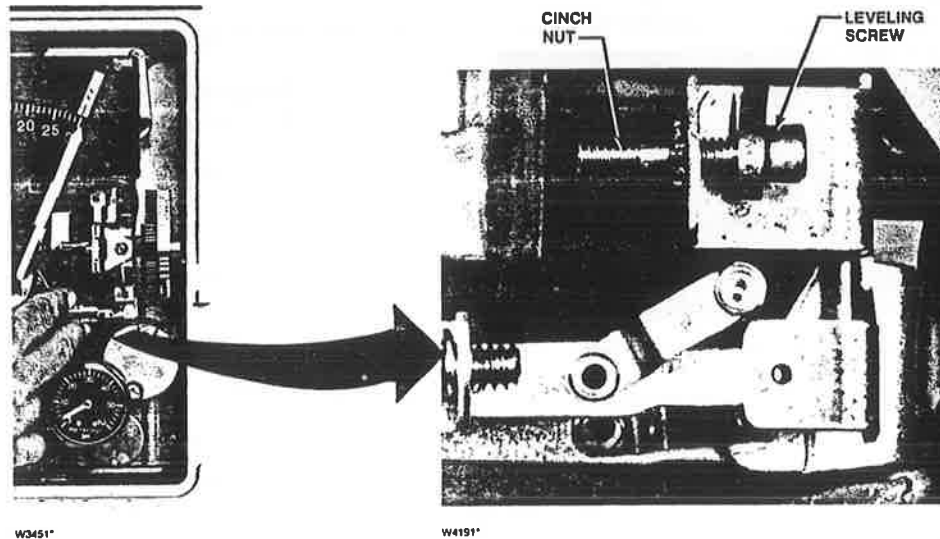

Figure 6-11. Link Number 2 Adjustment
21. Adjust the length of link number 2 by turning the adjustment screw clockwise to increase the length or counterclockwise to decrease the length, so that the pin on the end of the link is approximately one-half of its diameter short of aligning with the hole in the flapper assembly, as shown in figure 6-11.